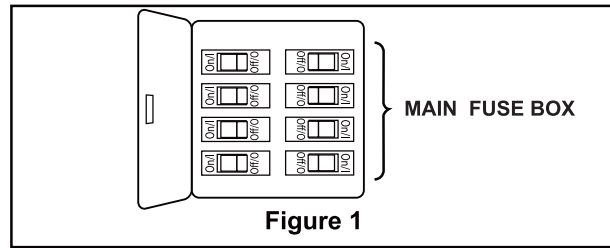

Figure 1
- Remove the hanger ball portion from the downrod/hanger ball assembly by loosening the set screw in the hanger ball until the ball falls freely down the downrod. Remove the pin from the downrod, then remove the hanger ball. Retain the pin and hanger ball for reinstallation in Step 6. (Figure 1)
To avoid possible re or shock, be sure electricity is turned off at the main fuse box before hanging. (Figure 1)
- To set the code on receiver unit, slide dip switches to the same positions as set on the remote. (Figure 1)